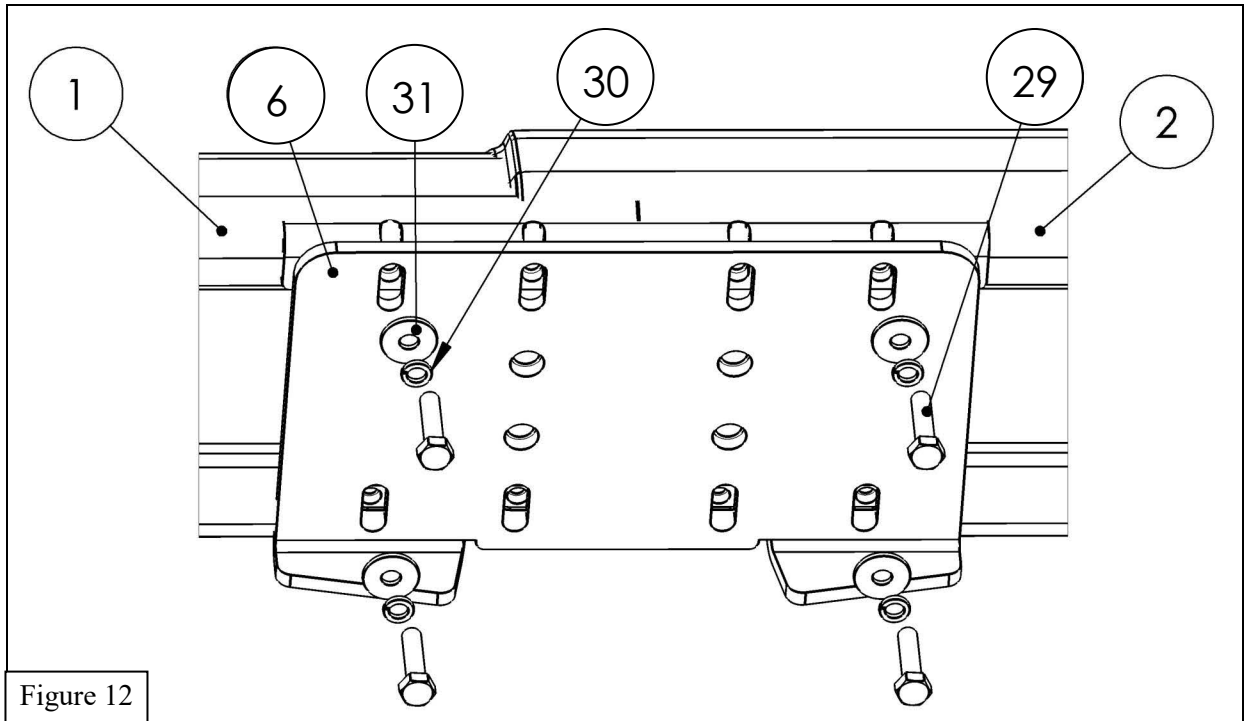

Figure 12
13. Obtain the Link Plate (6) and secure it to the Step Bar Assembly (1 & 2) using the supplied black M6 Hardware. See **Figure 12**.